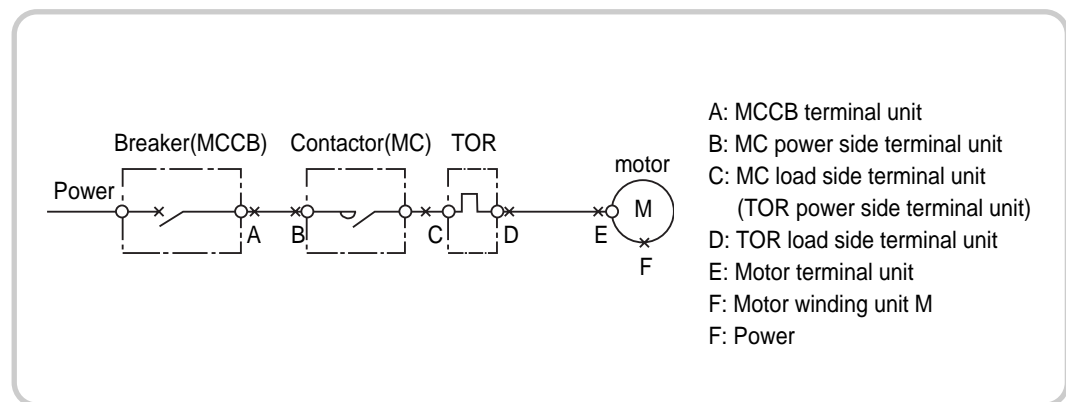

Fig. 70. Branchcircuit's short circuit points
In an MCCB which has a motor with a load and branch circuit with a magnetic switch, short circuit points related with this breaker are the six spots A through F in fig. 70 and since all other points have almost no possibility of a short circuit fault, they are not considered. Therefore short circuit faults on each point are investigated as below. At first, KSC and IEC standards' protection cooperation type as protection cooperation degree (p233) was introduced but if there is short circuit fault on C or D point of fig. 70, the short circuit current is big and permitted over current of Metasol series magnetic contactor is as shown on table 5. So generally protection cooperation type will be Type"1" and it is difficult to set it as Type"2". But when the short circuit point is on E or F of fig. 70, current decrease by wiring's impedance is quite big and the calculated result (higher impedance from D point is 0.) for wire length, 50m and 100m between D and E of fig. 70 is value shown on table 6. In fact, higher impedance is also added from D point so if there is short circuit to E point, the current which flows to magnetic switch gets smaller than the value on table 5. In this case, there is big possibility of having Type "2" as the cooperation type. If there is fault on F point, current gets smaller so the condition is better than E point.
Based on Metasol series magnetic contactor's permitted over current(the value in the case of no current limit of short circuit current with MCCB breaking time as 10ms), the calculated result of wire length which is needed to make protection cooperation Type"2" possible, is stated on table 5. This value is also calculated with higher impedance from D point as 0, so actual wire length will become a little shorter than this. Even when the length of wire is short, it is relatively easy to make possible up to certain length by methods as (1) enlarge magnetic contactor's size, (2) use MCCB with current limit effect, etc. over current resistant quantity is stated on table 4 but except small quantity rated heater, generally coordination Type"2" is relatively easily satisfied. In the case of a short circuit fault on A or B point of fig. 70, if the MCCB's breaking capacity is sufficient, there is no problem.
As investigated above, if each selection is correct, coordination of Metasol series MCCB and magnetic switch is relatively easily satisfies 1~8 details of coordination conditions (p195). But during the event of a disconnection fault, it becomes about type"2" of KSC and IEC standards coordination for short circuit on E or F point of Fig. 70 or type "1" for short circuit on C or D point. Depending on short circuit protection device, it is possible to have type "2" of coordination type even with short circuit fault of point C or D. But point C or D's short circuit occurs in magnetic contactor or TOR's terminal unit so it is impossible to avoid insulation deterioration between terminals and terminal's burnout. Eventually a magnetic switch needs to be exchanged so even with type "2" of coordination type, it should be regarded as having fewer advantages. So for coordination coordination type during short circuit, type"2" is proper in the case of short circuit on E or F point and type"1" for short circuit on C or D point. If you interpret that 9th detail of coordination conditions(p195) is applied to the short circuit case on E or F point, as stated above, it can be said that combination of Metasol series MCCB and Metasol magnetic switch can be satisfied at certain level.